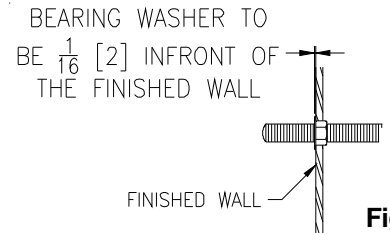

Fig. 20
20. Thread a backup nut and bearing washer onto each 5/8" rod. Adjust hardware so that the front surface of each flat washer is 1/16" in front of the finished wall See Fig. 20. All bearing washers must be in the same plane to support the fixture and prevent cracking.